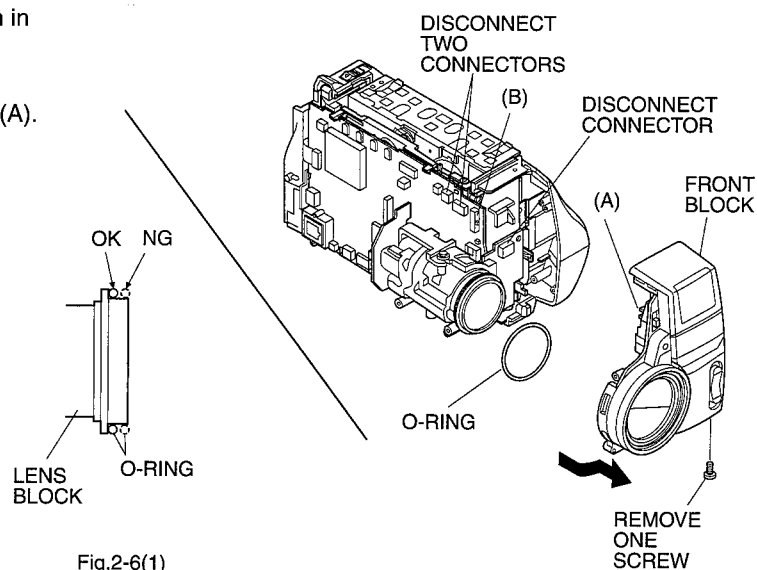

Fig. 2-6
2.5 Front Block (Fig. 2-6)
1. The O-ring must be installed in the position shown in Fig. 2-6(1).
2. When installing the front block, make sure of engagement between switch (B) and switch knob (A).
- (7) Remove the front block and rear unit. (See Fig. 2-6)